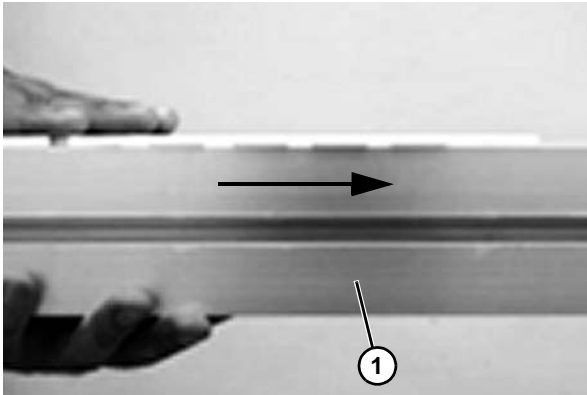

Figure 53
2. Feed the chain along the conveyor (Figure 53, item 1) by pulling it through the idler unit and back to the drive unit.